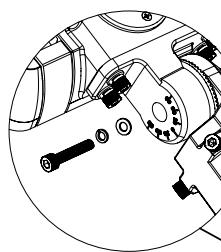

Figure 7
2. Lock the mounting and housing in place using the supplied M8x40mm machine thread screw, M8 spring washer and M8 flat washer at torque setting 9.6NM. (See Fig. 7)